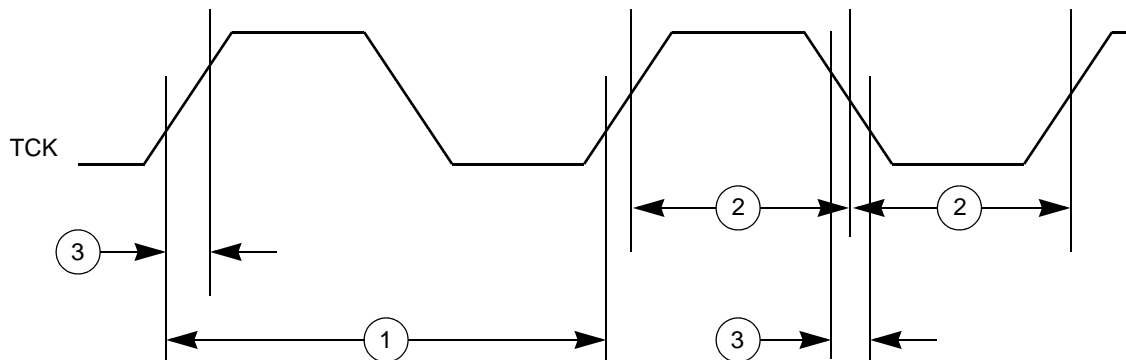

Figure 13. JTAG test clock input timing
- 3 See Notes on  $t_{cyc}$  on Figure 13 and Table 25 in Section Section 5.11.1 Clocking.